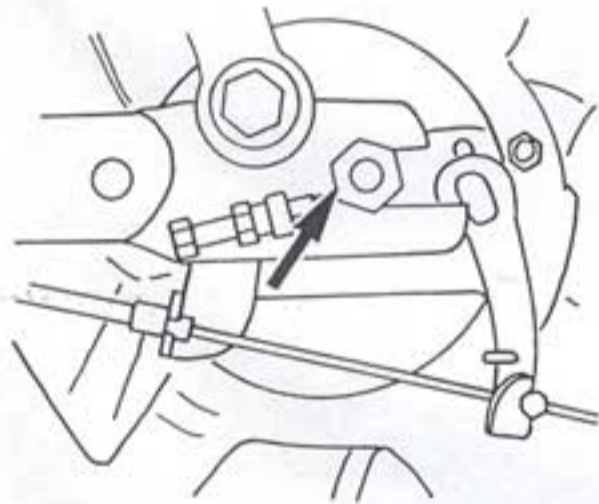

Fig. 1
- Push the cam lever forward to release the rear brake cable (fig. 1).